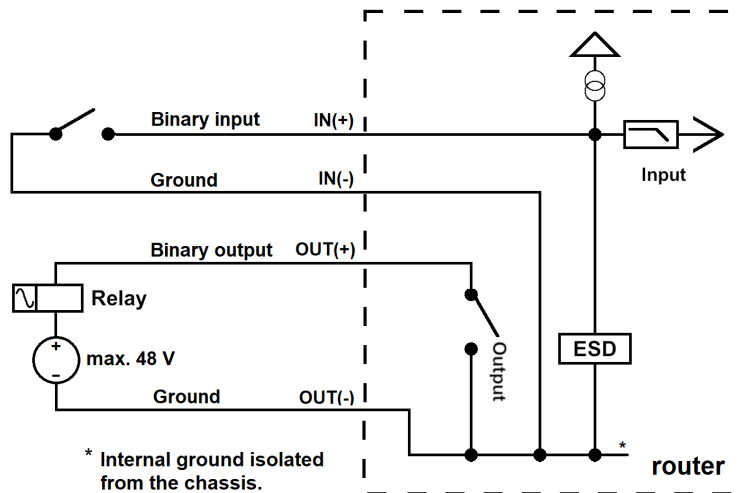

Figure 17: Functional Scheme of the Digital Interface
- i** The thread of the SMA connector for the WiFi antenna is connected to the internal ground, see Figure 17.
The power supply (common pole) is not connected to the metal case of the router nor to the internal ground, see Figure 17.
The I/O user interface is designed for digital input processing and digital output control. For detailed electrical parameters see Chapter 4.6. The functional scheme of connection for the digital input and digital output is in Figure 17.